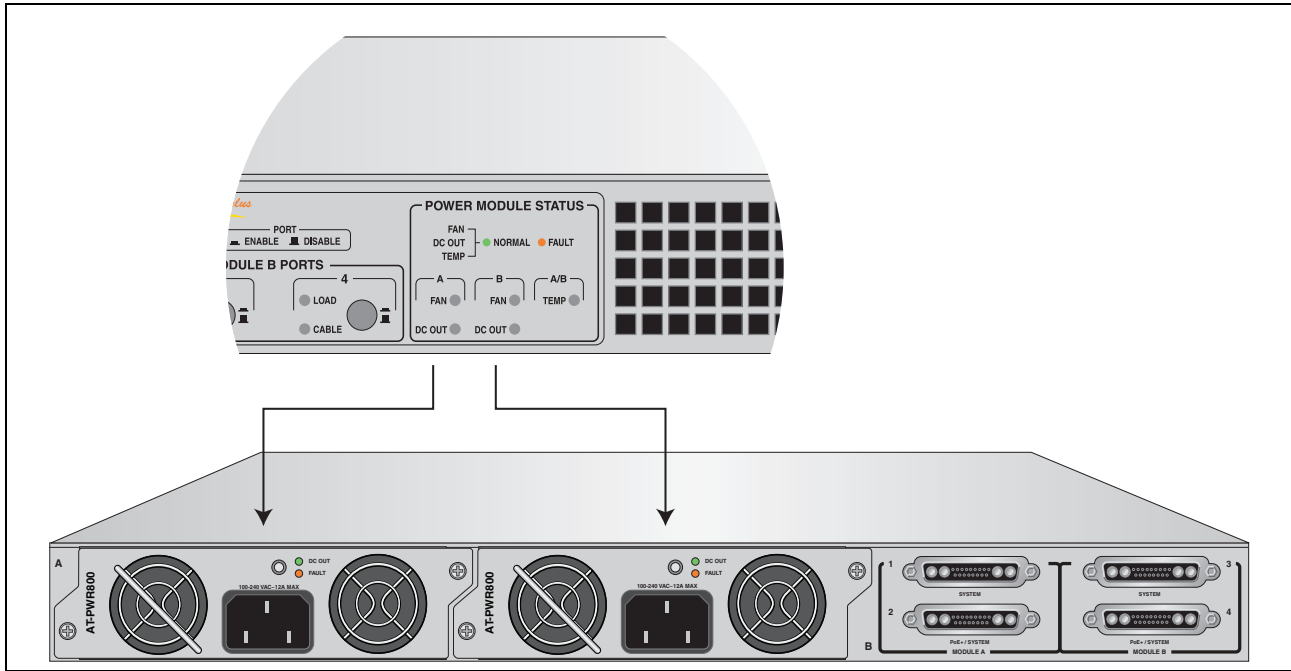

Figure 54. Checking the FAN and DC OUT LEDs in the LED Panel
6. In the POWER MODULE STATUS section of the LED panel shown in Figure 54 on page 72, examine the FAN and DC OUT LEDs of the power supply module you just powered on. Both LEDs should be green. If the LEDs are amber or off, refer to Chapter 4, “Troubleshooting” on page 83 for troubleshooting suggestions.